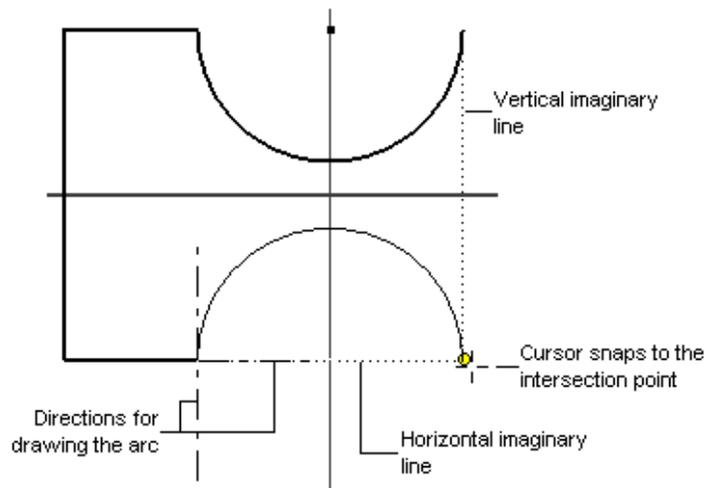

Figure 2-73 Use of the temporary tracking option to draw an arc
2. While using the temporary tracking option to draw lines, you do not need to press and hold the left mouse button and drag it. You just need to click once to select the endpoint of the line after you get the intersection point of the imaginary lines, refer to Figure 2-73.